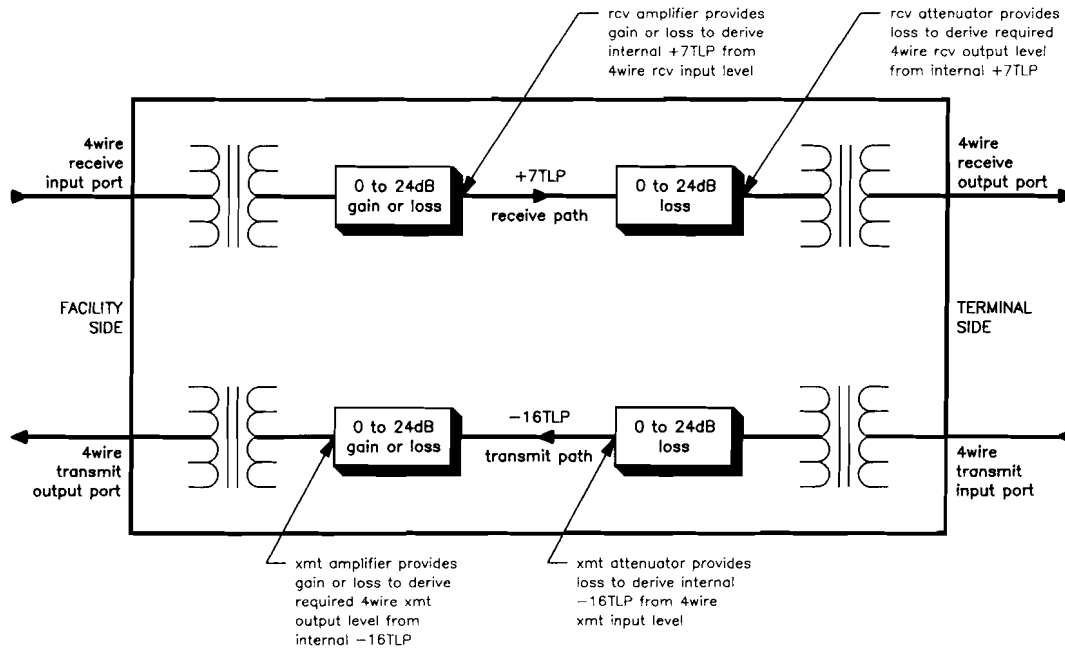

figure 3. Level coordination in 6170
2.04 Prescription-set transmit and receive amplifiers on the facility side of the 6170 allow the module to interface the SF signaling facility directly, i.e., without a separate facility-side line amplifier. The module's amplifiers, in conjunction with the prescription-set transmit and receive attenuators on the module's terminal side, provide for full coordination between facility-side and terminal-side levels (see figure 3). In the receive channel, the facility-side amplifier is set to provide the gain or loss necessary to derive a +7 transmission level point (TLP) within the module. This internal TLP is then used as a reference as the module's terminal-side receive attenuator is set to provide the loss necessary to derive the required terminal-side receive output level. In the transmit channel, the terminal-side attenuator is set to provide the loss necessary to derive a -16TLP within the module. This internal TLP is then used as a reference as the module's facility-side transmit amplifier is set to provide the gain or loss necessary to derive the required facility-side transmit output level. Both facility-side amplifiers in the 6170 provide from 0 to 24dB of gain or 0 to 24dB of loss in switch-selectable 0.1dB increments. Both terminal-side attenuators provide from 0 to 24dB of loss in switch-selectable 0.1dB increments. Thus, receive input TLP's from -17 to +7 can be accommodated and receive output TLP's from +7 to -17 can be derived. In a similar manner, transmit input TLP's from -16 to +8 can be accommodated and transmit output TLP's from +8 to -16 can be derived. Total facility-side gain and total terminal-side loss introduced into a channel are the respective sums of that channel's front-panel *fac level* and *term loss* switches set to *IN*. The overload point for the receive input and receive output ports is 0dBm0. The overload point for the transmit input and transmit output ports is +3dBm0.